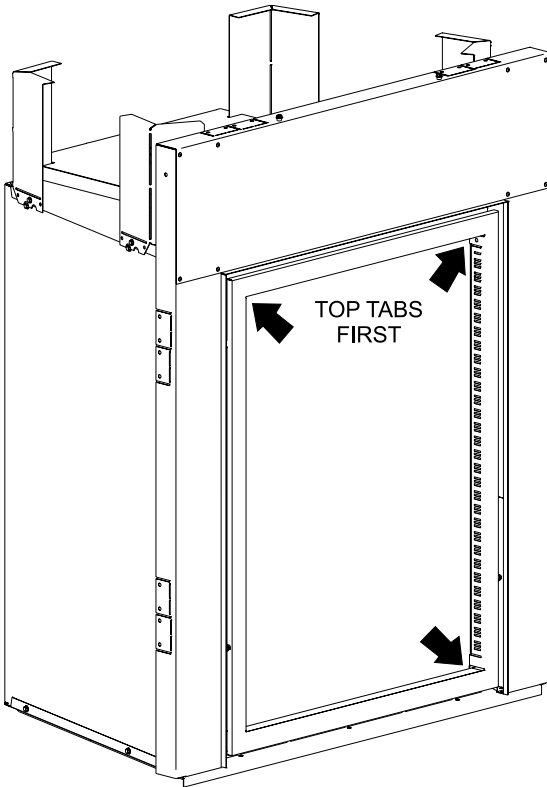

Figure 84
2. To remove the offset frame; release tabs in the upper corners by flexing them away from the glass frame. Tilt offset frame to the left or right in order to access one of the bottom tabs. Release tab and remove offset frame. **See Figure 84.** Installation is the reverse of removal.